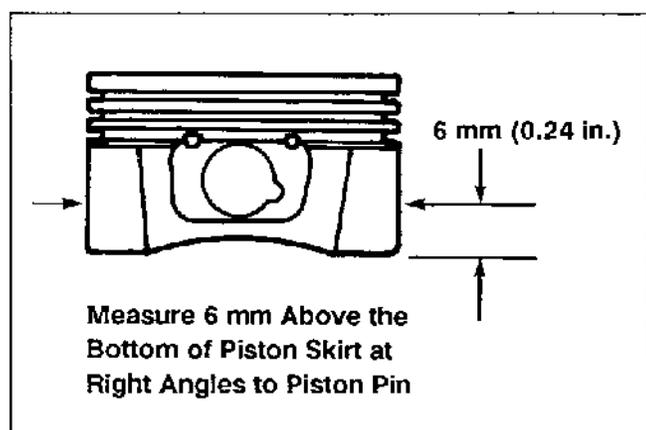

Figure 10-3. Measuring Piston Diameter.
1. Use a micrometer and measure the diameter of the piston **6 mm (0.24 in)** above the bottom of the piston skirt and perpendicular to the piston pin. See Figure 10-3.